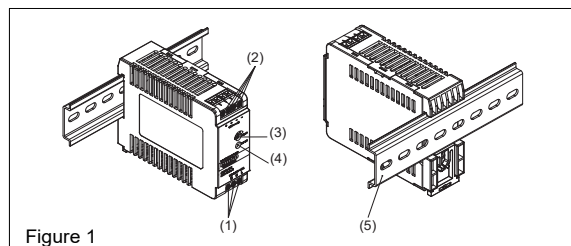
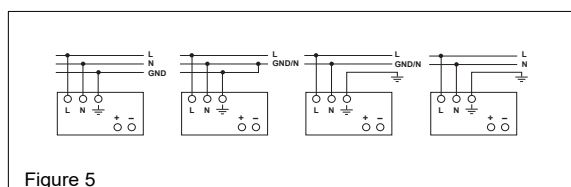

Figure 1
Figure 5
5.1. Input connection (Fig. 1, Fig. 5)
Use L, N and GND connections of input terminal connector (see Fig. 1 (1)) to establish the 100-240 VAC connection. Typical connection methods are shown in Figure 5.
5.2. Output connection (Fig. 1 (2))
Use the "+" and "-" screw connections to establish the 12 VDC connection. The output provides 12 VDC. The output voltage can be adjusted from 12 to 15 VDC on the potentiometer. The green LED DC OK displays correct function of the output (Fig. 1 (4)). The device has a short circuit and overload protection and an overvoltage protection limited to 16-18.7 VDC.